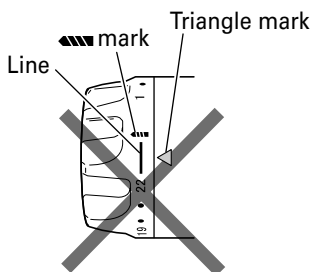

Fig. 11
- 6. Change rotation speed mode selector function (Fig. 11).
- Do not use with the clutch dial set at the line between the number "22" and the drill mark "●". Doing so may cause damage (See Fig. 11).